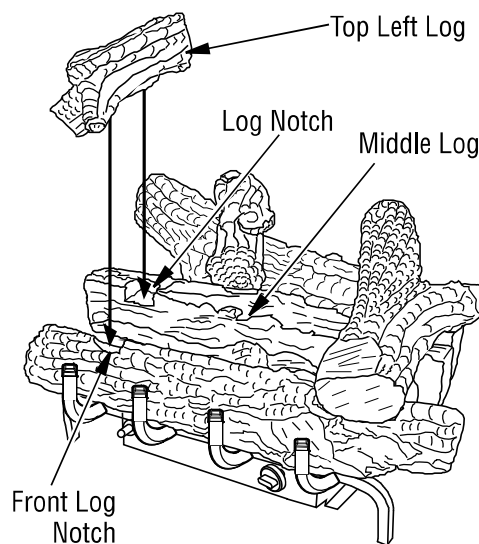

Figure 29 - Installing Top Left Log
- Place the top left log onto the middle and front logs as shown in **Figure 29**. Make sure to match up the shape on the bottom of the top left log with the notches in the middle and front logs.